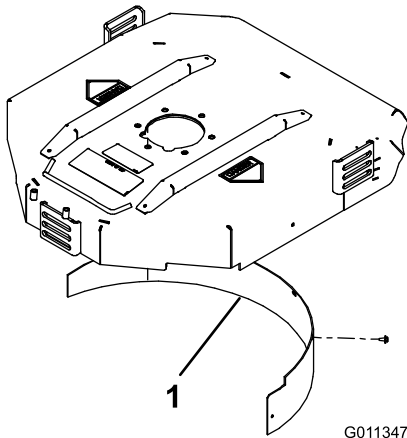

Figure 7
2. Install the mulching baffle in the rear opening and secure it with 5 flange head bolts (Figure 7).